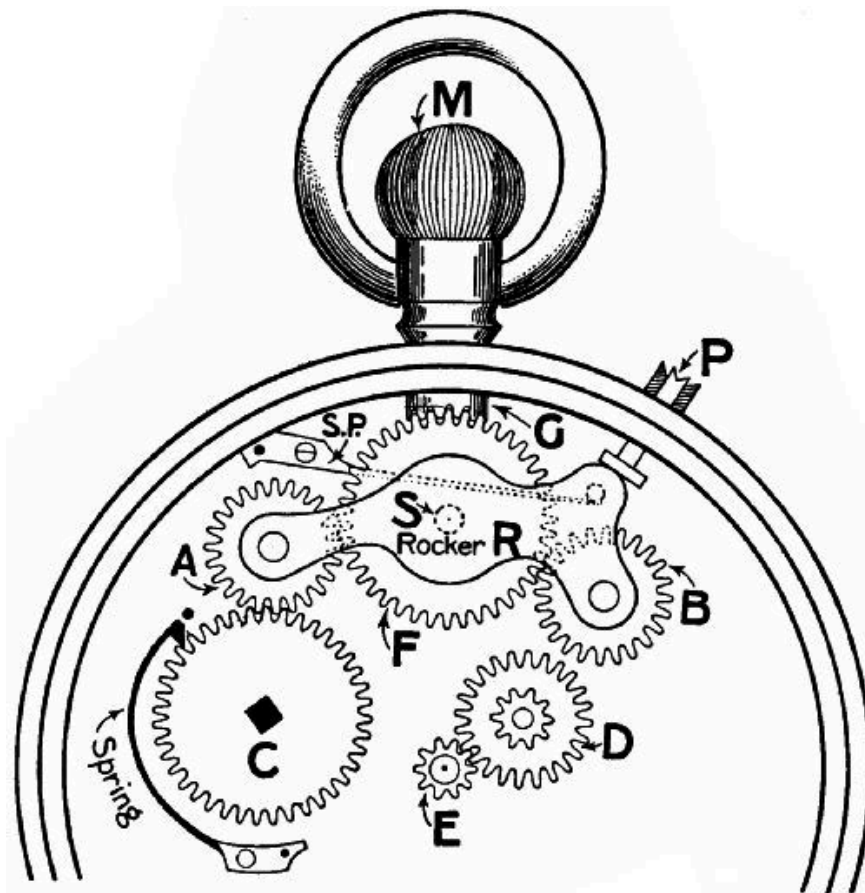

FIG. 209.—The winding mechanism of a keyless watch.
There are two forms of "going-barrel" keyless mechanism—(1) The rocking bar; (2) the shifting sleeve. The *rocking bar* device is shown in Figs. 209, 210. The milled head *M* turns a cog, *G*, which is always in gear with a cog, *F*. This cog gears with two others, *A* and *B*, mounted at each end of the rocker *R*, which moves on pivot *S*. A spring, *S.P.*, attached to the watch plate presses against a small stud on the rocking bar, and keeps *A* normally in gear with *C*, mounted on the arbor of the mainspring.
To wind the watch, *M* is turned so as to give *F* an anti-clockwise motion. The teeth of *F* now press *A* downwards and keep it in gear with *C* while the winding is done. A spring click (marked solid black) prevents the spring uncoiling (Fig. 209). If *F* is turned in a clockwise direction it lifts *A* and prevents it biting the teeth of *C*, and no strain is thrown on *C*.
The *shifting sleeve* mechanism has a bevel pinion in the place of G (Fig. 209) gearing with the mainspring cog. The shaft of the knob M is round where it passes through the bevel and can turn freely inside it, but is square below. On the square part is mounted a little sliding clutch with teeth on the top corresponding with the other teeth on the under side of the bevel-wheel, and teeth similar to those of G (Fig. 209) at the end. The clutch has a groove cut in the circumference, and in this lies the end of a spring lever which can be depressed by the push-piece. The mechanism much resembles on a small scale the motor car changing gear (Fig. 49). Normally, the clutch is pushed up the square part of the knob shaft by the spring so as to engage with the bevel and the winding-wheels. On depressing the clutch by means of the push-piece it gears with the minute-hand pinion, and lets go of the bevel.